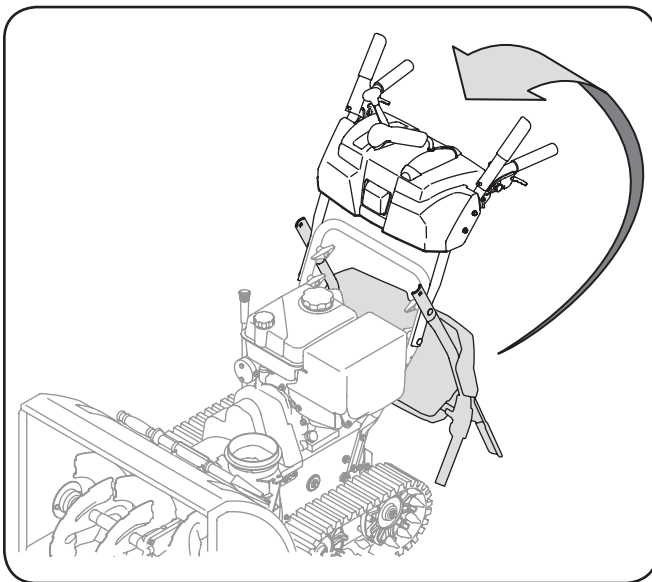

Figure 3-1
2. Remove the lower plastic wing nut and carriage bolt from each side of the upper handle; raise the upper handle assembly until it snaps over the lower handle. See Fig. 3-1.